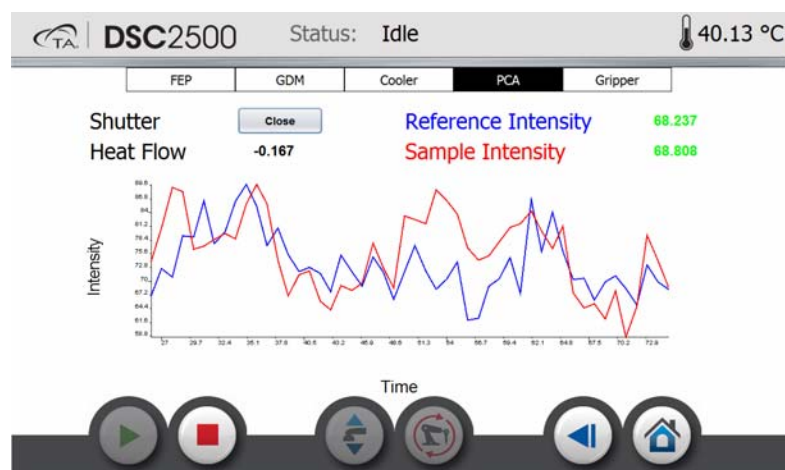

Figure 18 PCA page on the instrument touch screen.
The shutter can be opened/closed using the **Shutter**  button located in the **General** tab in TRIOS Controls view or using the Shutter **Open/Close** button located on the touch screen **Utilities > Diagnostics > PCA** page (see Figure 18).
- 10 Perform the intensity adjustment and balancing process while monitoring the signal display on the touch screen or on the controller. To monitor on the controller, observe the Sample Intensity and Reference Intensity signals in the real-time signals panel within TRIOS. To monitor the touch screen, observe the heat flow and intensity signals on the touch screen **Utilities > Diagnostics > PCA** page (see Figure 18). If you are using a third-party PCA, skip to step 12.
- 14 If desired, the shutter can be closed using the **Shutter**  button in TRIOS or by using the Shutter **Open/Close** button located on the touch screen **Utilities > Diagnostics > PCA** page (see Figure 18). If you are using a third-party PCA, the shutter must be closed manually. Additionally, when using a third-party PCA, you may also want to disable the real-time intensity signals using the **Shutter** button in TRIOS or the **Event 2** button from the touch screen.